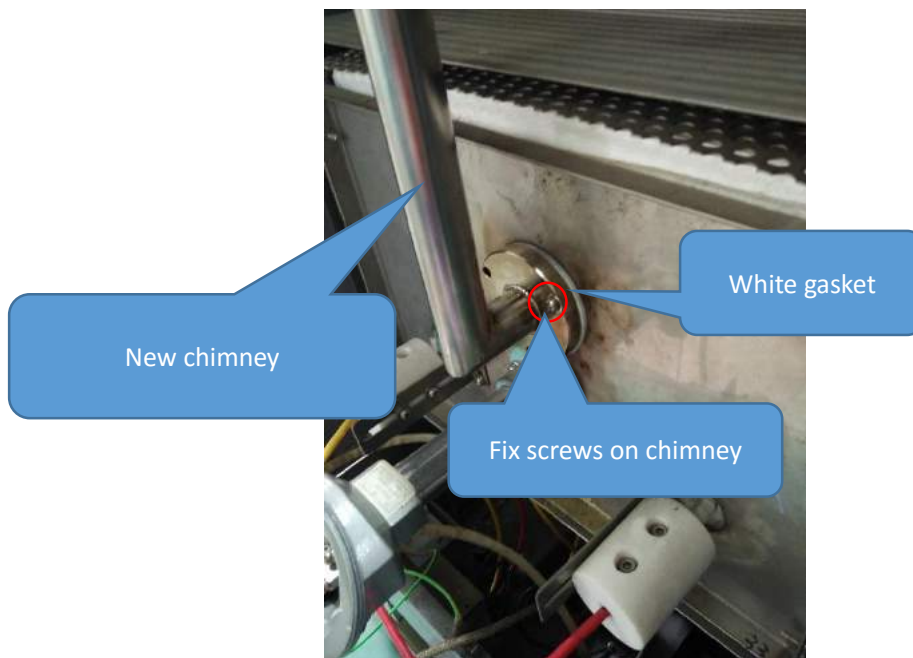

Figure 4
3. Install new chimney with the white gasket as showed in Figure 4.